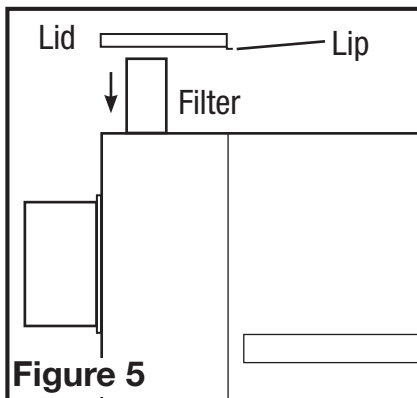

Figure 5
2. Install the Air Filter (not included) into the holder inside the filter box. Makes sure it is seated all the way to the bottom of the channel. Take note of the airflow direction (Figure 5).
2. Connect the ducting to the fan's duct collar (Figure 5). Seal ducting to housing with appropriately rated tape. Use screws (rectangular duct) or suitable clamps (round duct) to secure in place. Do not allow screws to interfere with operation of damper. Always duct the fan to the outside through a wall or roof cap. It is recommended that low restriction termination fittings be used.